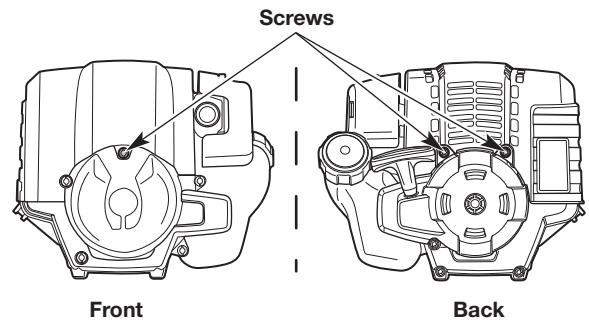

Fig. 34
2. Remove the three (3) screws from the engine cover with a flat-head screwdriver or T-25 Torx screwdriver (Fig. 34). Remove the engine cover.